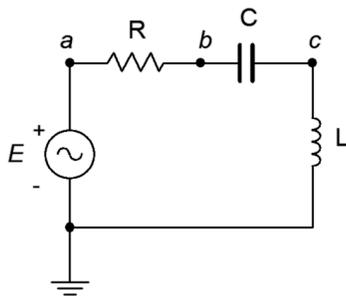

Figure 2.20
35. For the circuit of Figure 2.20, determine the circulating current and the voltages across each component. The source is a 10 volt peak sine at 20 kHz,  $R = 200 \Omega$ ,  $C = 100 \text{ nF}$  and  $L = 1 \text{ mH}$ .
36. For the circuit of Figure 2.20, find  $v_b$  and  $v_{ac}$ .
64. Assume that you are troubleshooting a circuit like the one shown in Figure 2.20.  $E$  is a 2 volt peak sine at 2 kHz,  $R = 390\ \Omega$ ,  $C = 100\ \text{nF}$  and  $L = 25\ \text{mH}$ . The circulating current measures approximately 4 mA with a lagging phase angle of just under  $-40$  degrees. What is the likely problem?
65. Given the circuit shown in Figure 2.20, find the values for  $C$  and  $L$  if the source is a 6 volt sine wave at 1 kHz,  $R = 2\ \text{k}\Omega$ ,  $v_R = 4\ \text{V}$  and  $v_L = 5\ \text{V}$ .